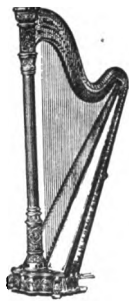

FIG. 143
**176. Harp.** In this instrument (Fig. 143) the strings are plucked. Pedals serve to change the tension upon the strings so as to produce intermediate notes (sharps and flats).